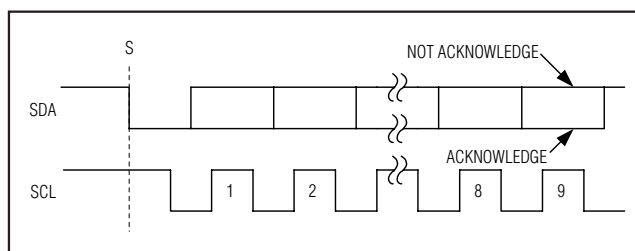

Figure 6. Acknowledge Bits
Data transfers are acknowledged with an acknowledge bit (A) or a not-acknowledge bit ( $\overline{A}$ ). Both the master and the MAX11606–MAX11611 (slave) generate acknowledge bits. To generate an acknowledge, the receiving device must pull SDA low before the rising edge of the acknowledge-related clock pulse (ninth pulse) and keep it low during the high period of the clock pulse (Figure 6). To generate a not-acknowledge, the receiver allows SDA to be pulled high before the rising edge of the acknowledge-related clock pulse and leaves SDA high during the high period of the clock pulse. Monitoring the acknowledge bits allows for detection of unsuccessful data transfers. An unsuccessful data transfer happens if a receiving device is busy or if a system fault has occurred. In the event of an unsuccessful data transfer, the bus master should reattempt communication at a later time.